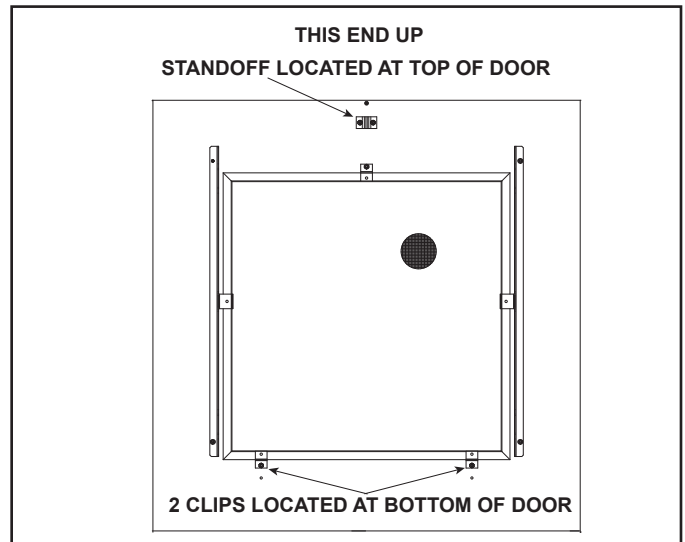

Figure 1. Decorative Front - Rear View
1. All steps to install the AMB-LIGHTS Kit will be done on the lower back side of the decorative front. Figure 1 shows the features used to determine the top and bottom of the decorative front.